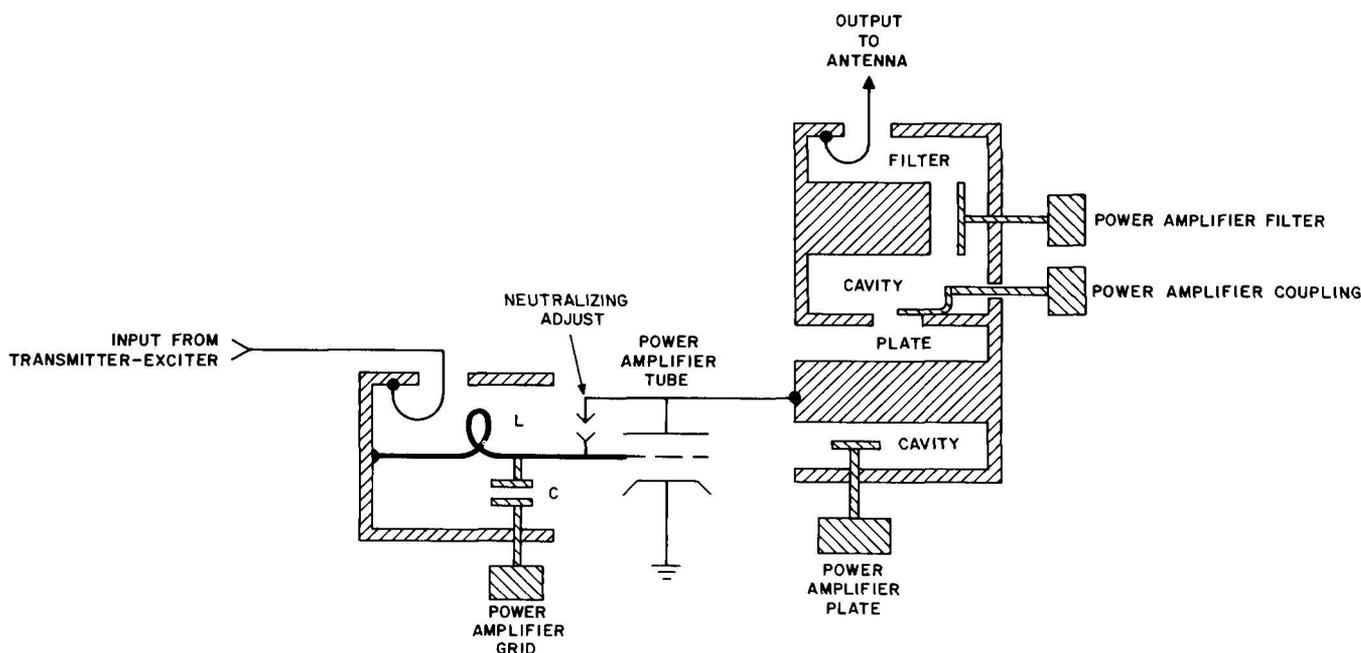

Fig. 7—Power Amplifier—Electromechanical Diagram
3.34 The power amplifier used in the Echo-Fox UHF Radio System operates at a single frequency within the radio frequency spectrum of 406 to 420 MHz. The power amplifier (Fig. 7) employs a 4CX300A ceramic planar tetrode electron tube. This tube is cooled with forced-air from a blower mounted on the PA power supply. An external power supply provides operating voltages.